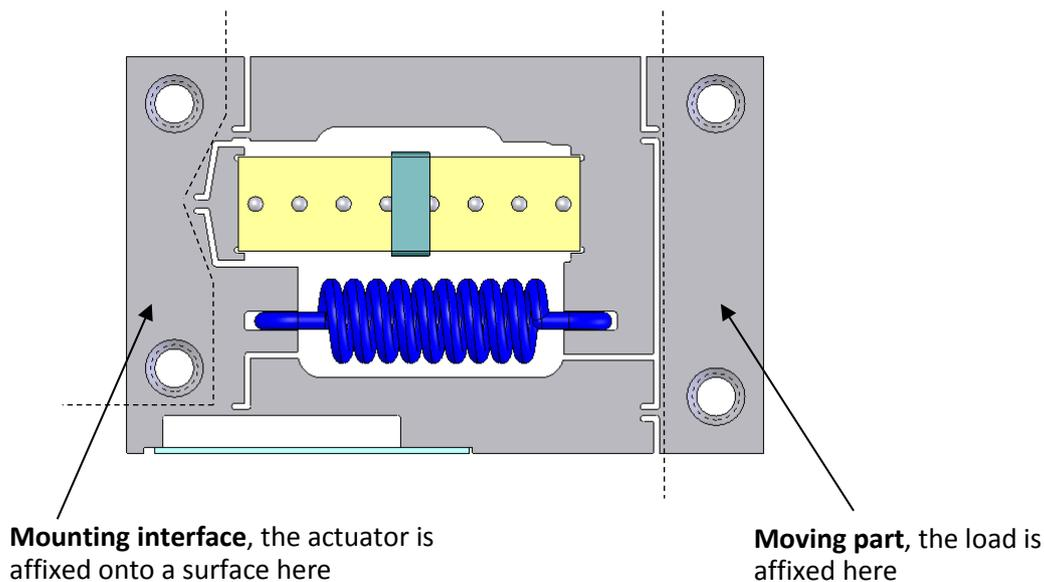

Figure 4: Mounting interface and moving part
1. Only affix the P-603 onto a surface using the mounting holes intended for this purpose (see Figure 4, p. 13).
2. Only affix a load to the P-603 using the mounting holes intended for this purpose (see Figure 4, p. 13).